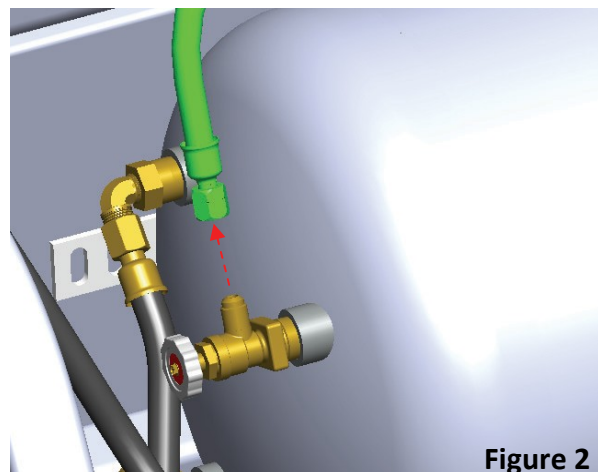

Figure 2
- 2) Disconnect the vapor return line from the vapor return valve on the LPI® tank. **Caution: This line is pressurized, Refer to LPI® Fuel line Draining prior to disconnecting.** Figure 2